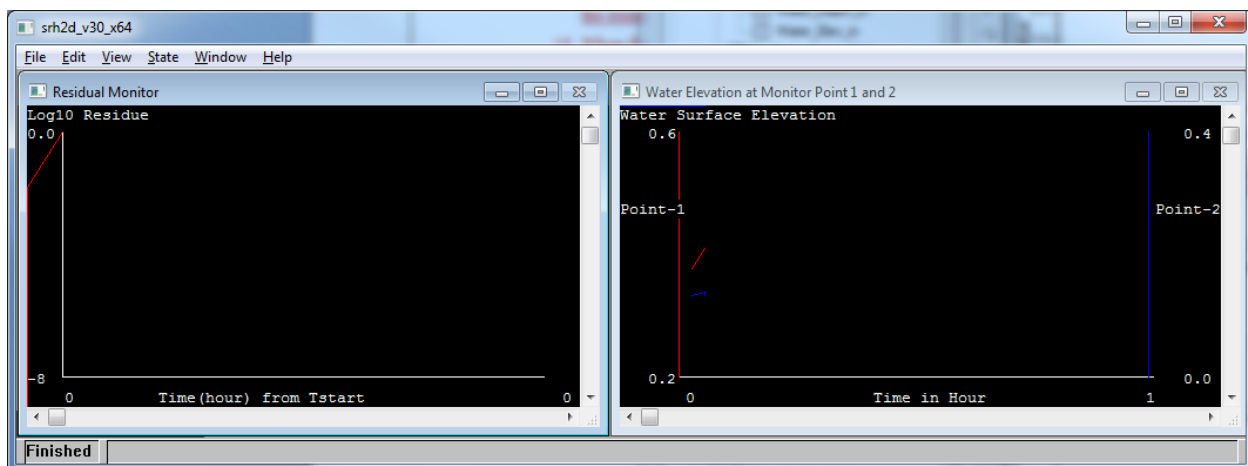

Figure 5 SRH-2D model wrapper
3. Arrange and resize the three DOS windows so that the residual and water surface elevation plots can be seen. The arrangement may appear similar to Figure 5.